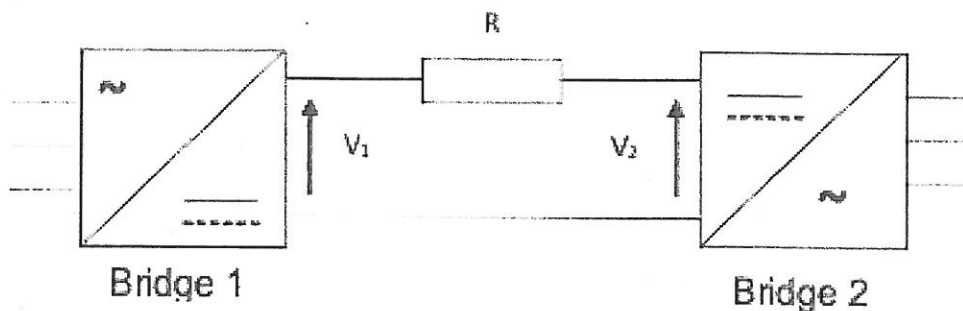

FIGURE 1
- (a) Describe and discuss the operation and features of the ac to ac power transmission system shown in the Figure 1.